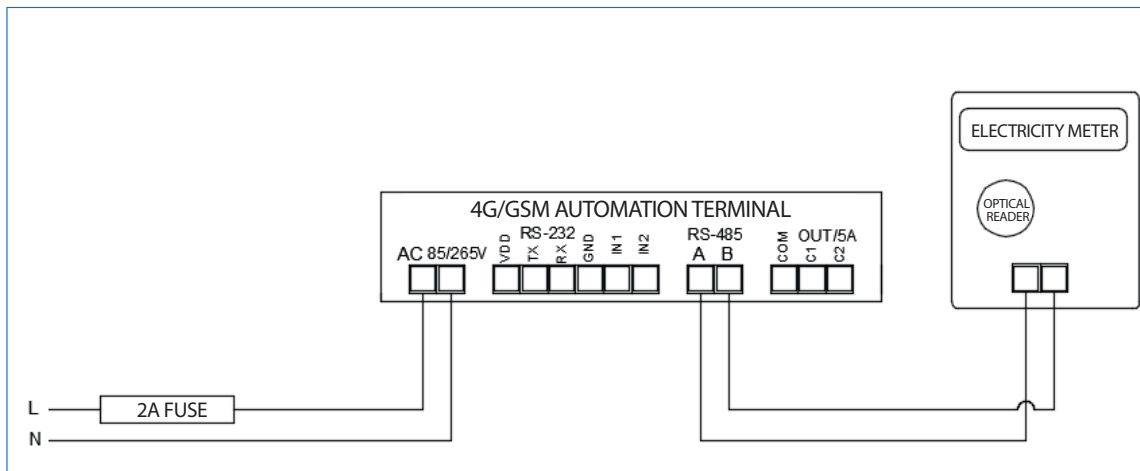

Figure 3.4
- c. Electric Meter / RS-485: (Figures 3.4, 3.5, 3.6, 3.7, 3.8, 3.9)